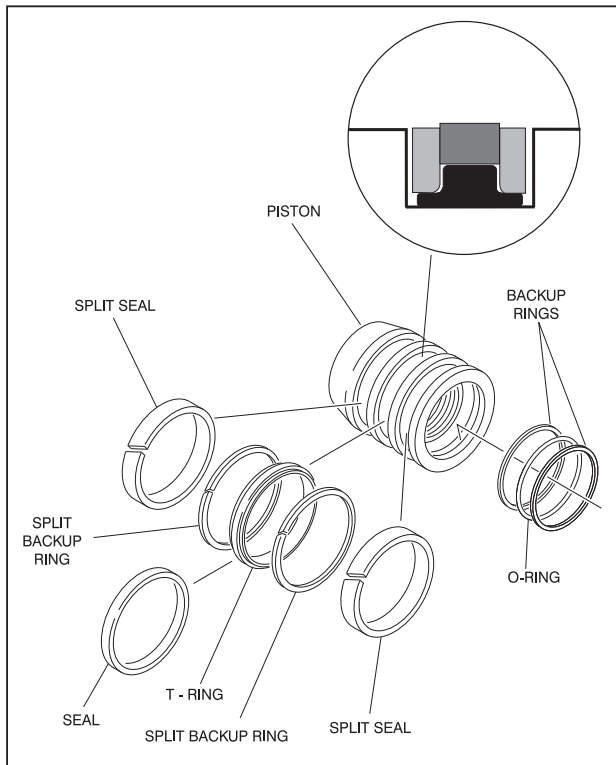

Figure 5-10. Piston Seal Kit Installation
NOTE: The backup rings for the solid seal have a radius on one side. This side faces the solid seal. (See magnified insert in Figure 5-10.) The split of seals and backup rings are to be positioned so as not to be in alignment with each other.
- 16. Place new guide locks and seals in the applicable outside diameter grooves of the cylinder piston. (See Figure 5-10.)